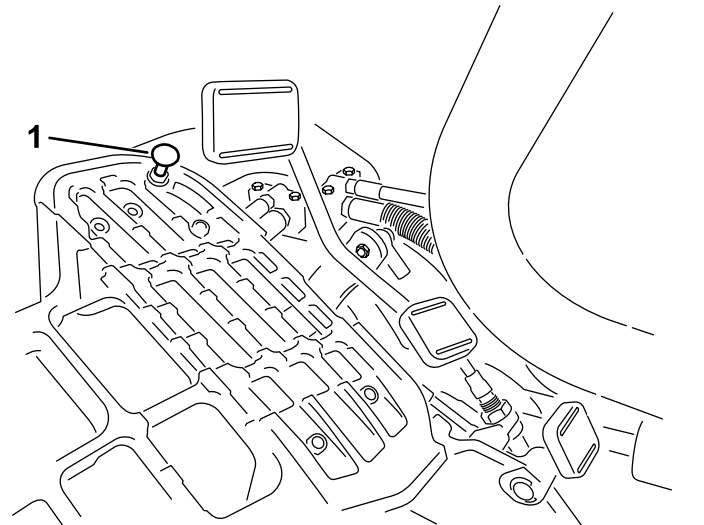

Figure 53
To obtain the maximum-transport speed, put the functional control lever in the TRANSPORT position and press down on the traction pedal. If the pedal contacts the stop (Figure 53) before you feel tension on the cable, perform the following adjustment procedure:
1. Put the functional-control lever in the TRANSPORT position and loosen the locknut securing the pedal stop to the floor plate (Figure 53).